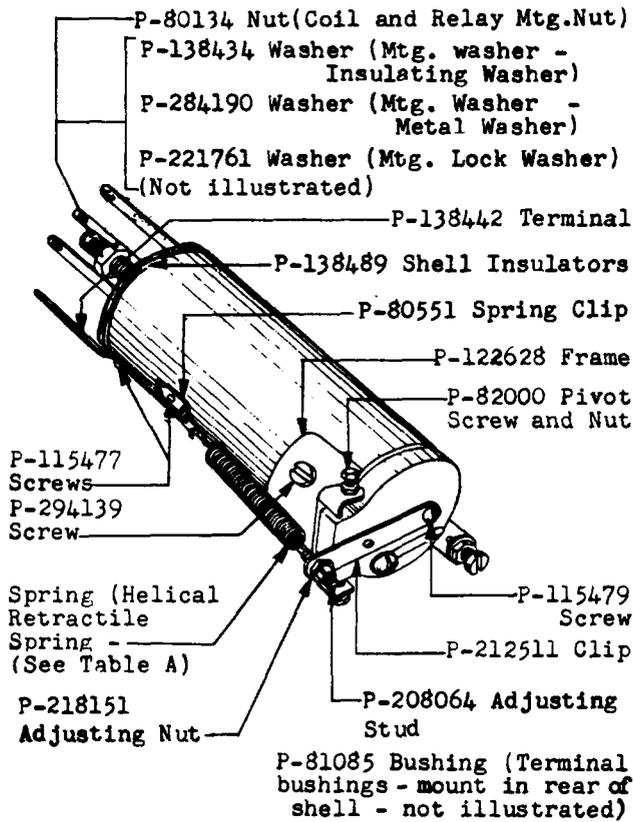
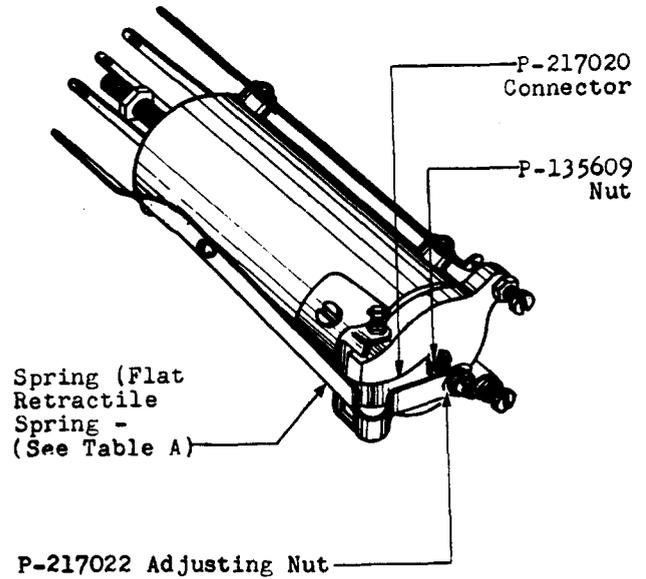

Fig. 5 - Helical-type Retractable Spring (Relay Having Break Spring Combination Illustrated) (Figure Does Not Apply to 196-type Relays)
Fig. 6 - Flat-type Retractable Spring (Relay Having Transfer Spring Combination Illustrated) (Figure Does Not Apply to 196-type Relays)
1. Piece part P-219439 covers the flat-type retractile spring illustrated in Fig. 6. All other piece parts specified are helical-type retractile springs illustrated in Fig. 5.
2. When replacing the retractile spring or armature on a relay equipped with a helical-type retractile spring and the piece-part information in the table specifies P-219439 retractile spring for the relay, replace the retractile spring and armature by the parts specified in the table and also replace the parts listed in Fig. 6.